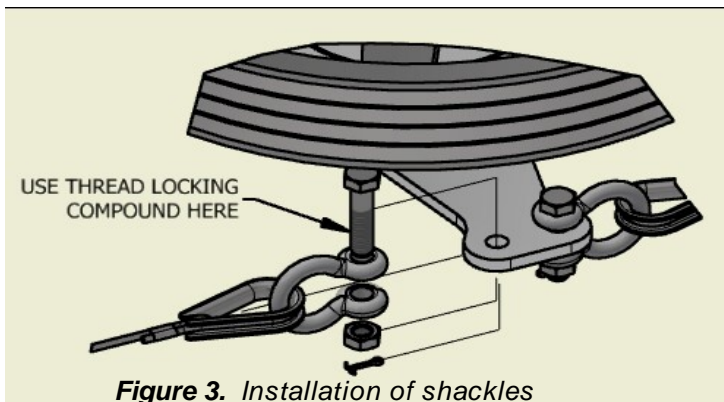

Figure 3. Installation of shackles
STEP 3: Refer to **Figure 3** on back of page.